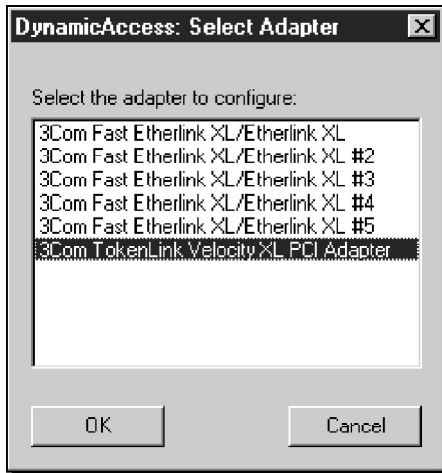

Figure 4-11 DynamicAccess: Select Adapter Window
You can click the Priority button to access the *DynamicAccess: Select Adapter* window (Figure 4-11) to enable and configure *Class of Service*. For more information about *Class of Service*, see “*Configuring Class of Service*” later in this chapter.
You can click the **Priority** button to access the *DynamicAccess: Select Adapter* window (Figure 4-11) to enable and configure *Class of Service*. For more information about *Class of Service*, see “*Configuring Class of Service*” later in this chapter.
The DynamicAccess: Select Adapter window appears (Figure 4-11).
- 2 Select 3Com TokenLink Velocity XL PCI Adapter, as shown in Figure 4-11.**